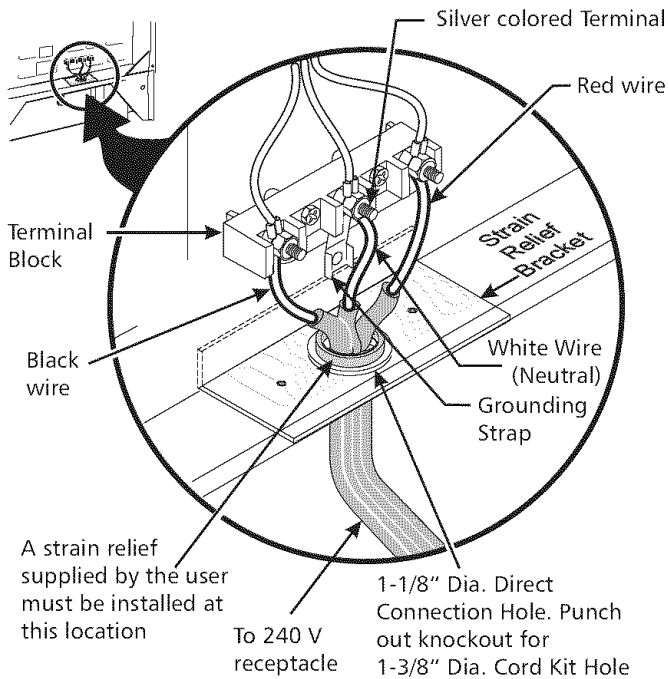

Figure 3
**NOTE:** Dual fuel Slide-in Range is shipped from factory with 1 1/8" dia. hole as shown on figure 3. If a larger hole is required, punch out the knockout.
**⚠ WARNING** Risk of fire or electrical shock exists if the incorrect amperage cord is used, the Installation Instructions are not followed, or the strain relief bracket is discarded (see Figure 3).
(The 3-conductor cord or cable must be replaced with a 4-conductor cord or cable where grounding through the neutral conductor is prohibited in new installations, mobile homes, recreational vehicles or in other areas where local codes do not permit neutral grounding) If local codes permit connection of the frame grounding conductor to the neutral wire of the copper power supply cord (see Figure 3):
4. Replace the 3 nuts on the terminal block. (See Figure 3)